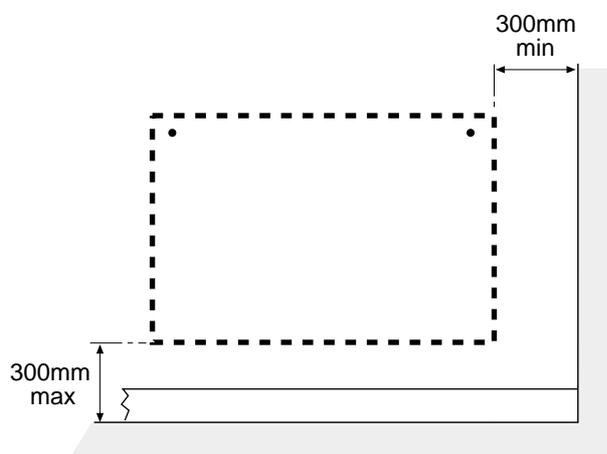

Fig. 4
3. Note the recommended maximum height above the floor - see Fig. 4. The heater should be mounted at sufficient height to allow easy cleaning of the floor covering below the heater.